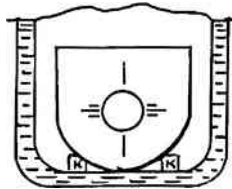

Figure 2
7. Chambers come equipped with Kaowool strips for installation in either Flat Bottom Boilers or Tuxedo Type Round Bottom Boilers. (Fig. 2 & 3) "K" indicates Kaowool Strips supplied to support chamber.